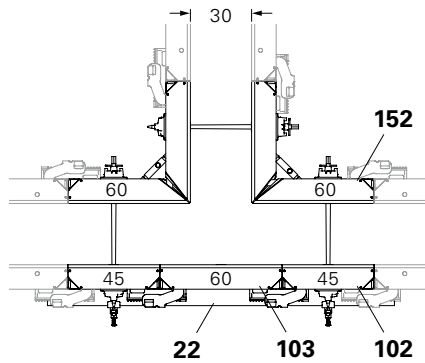

Fig. B5.05
- Wall thickness 30: Fig. B5.05